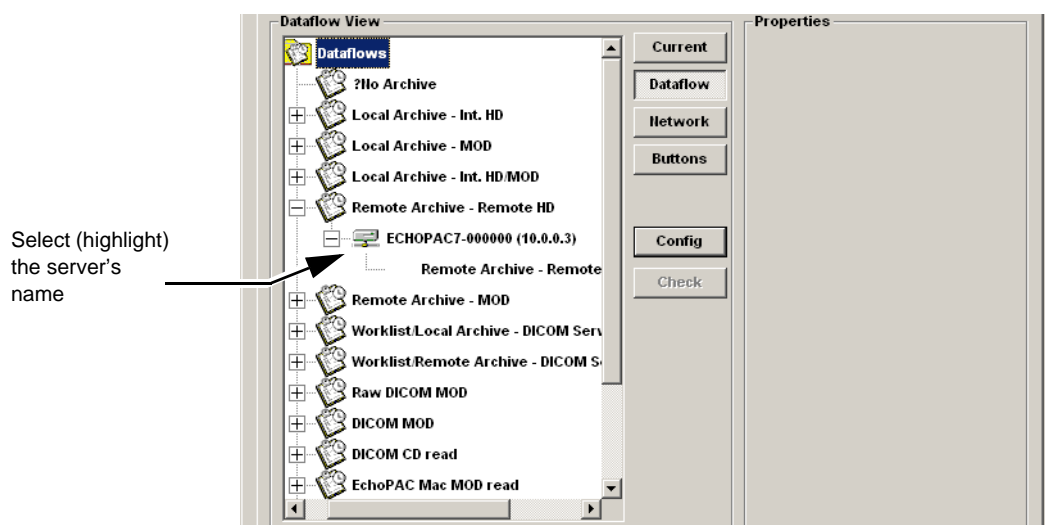

Figure 3-121 Remote HD dataflow contents
- 6.) Select the EchoPAC PC's name to highlight it, see Figure 3-121.